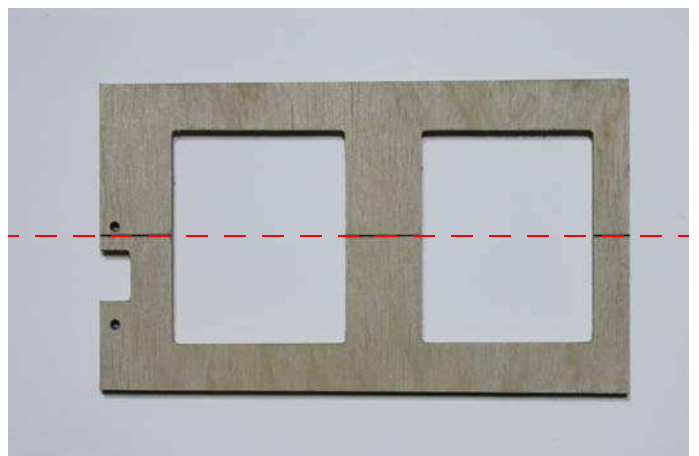

Fig.84: Draw the central line.
- Using a pencil, draw the central line of the servos mounting frame "BASE" (see figure 84);